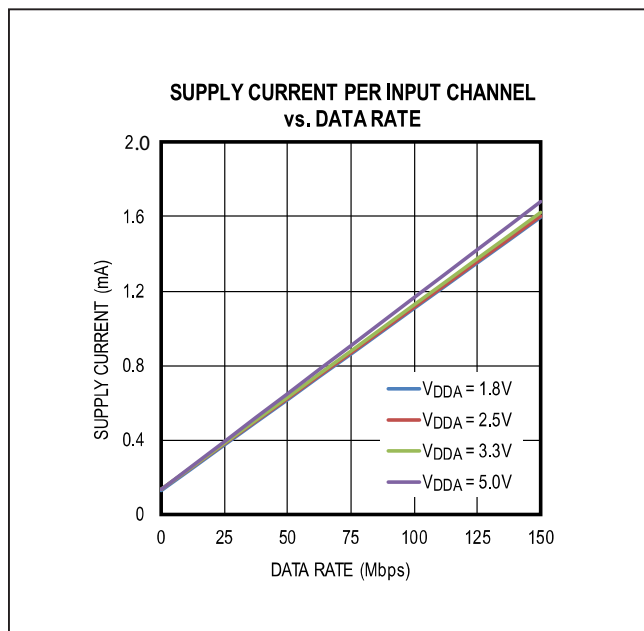
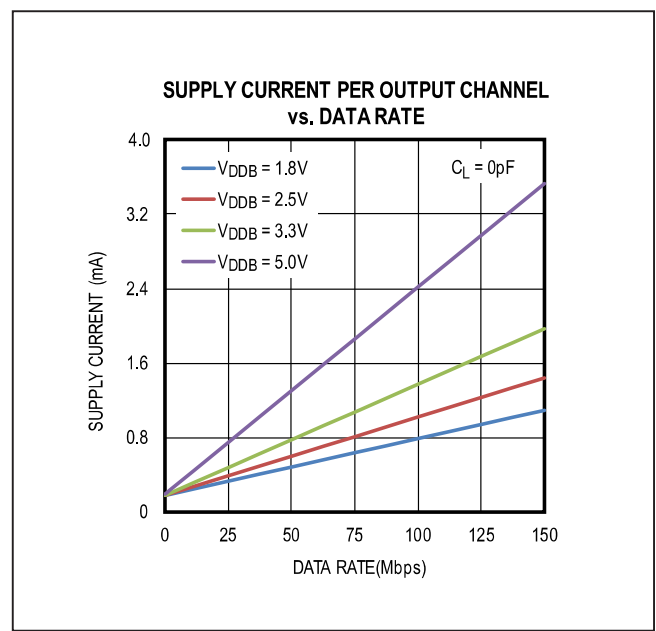

Figure 6. Supply Current Per Input Channel (Estimated)
Figure 7. Supply Current Per Output Channel (Estimated)
The required current for a given supply (V_{DDA} or V_{ddb}) can be estimated by summing the current required for each channel. The supply current for a channel depends on whether the channel is an input or an output, the channel's data rate, and the capacitive or resistive load if it is an output. The typical current for an input or output at any data rate can be estimated from the graphs in Figure 6 and Figure 7. Please note the data in Figure 6 and Figure 7 are extrapolated from the supply current measurements in a typical operating condition.
The total current for a single channel is the sum of the “no load” current (shown in Figure 6 and Figure 7) which is a function of Voltage and Data Rate, and the “load current,” which depends on the type of load. Current into a capacitive load is a function of the load capacitance, the switching frequency, and the supply voltage.
- Channel 1 is an input channel operating at 2.5V and 20Mbps, consuming 0.33mA, estimated from Figure 6.
- Channel 2 and 3 are input channels operating at 2.5V with DC signal, consuming 0.13mA, estimated from Figure 6.
- Channel 4 is an output channel operating at 2.5V and 100Mbps, consuming 1.02mA, estimated from Figure 7.
- Channel 1 is an output channel operating at 3.3V and 20Mbps, consuming 0.42mA, estimated from Figure 7.
- Channel 2 and 3 are output channels operating at 3.3V with DC signal, consuming 0.18mA, estimated from Figure 7.
- Channel 4 is an input channel operating at 3.3V and 100Mbps, consuming 1.13mA, estimated from Figure 6.